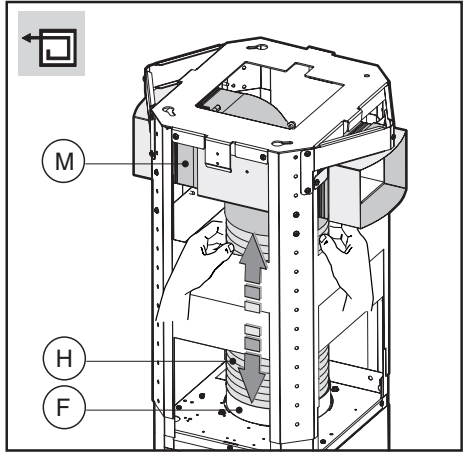

Fig.9
- **Filter hood:** connect the flexible hose **H** (not supplied) to the deflector **M** (Fig. 9).
- Fix the flexible hose **H** over the connector flange **F** (Fig. 9).